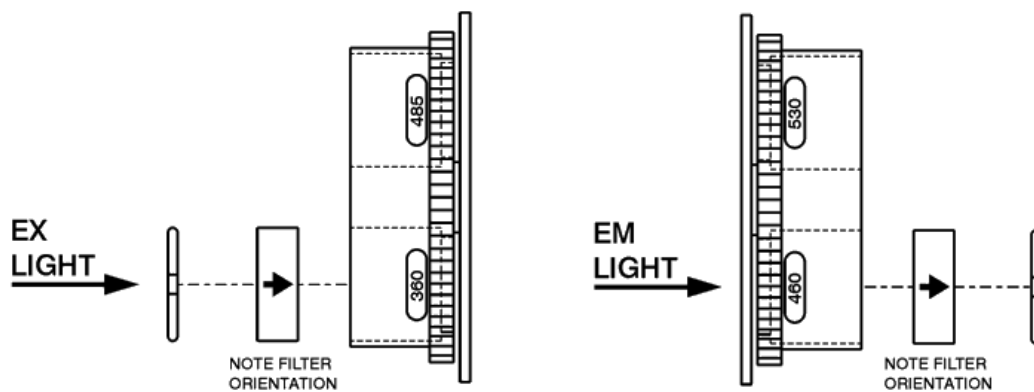

Figure 26: EX and EM filter wheels, showing correct orientation of the filters
Each filter wheel is labeled as EX or EM, and can contain up to four filters and/or black plugs (also referred to as “dummy filters”). Each filter has its central wavelength and band pass values printed on its side, with an arrow to indicate the proper direction of light through the filter (see **Figure 26**). Filters and plugs are secured with C-clip retainers.
- Filter direction within each filter wheel is important, and the direction differs depending on the filter wheel type. A diagram on the inside of the reader’s front panel door indicates orientation; see **Figure 26**.
1. Ensure that all filters and/or plugs are inserted properly (see **Figure 26**).
2. Orient the filter or plug (see **Figure 26**): Observe the arrow on the filter indicating the light direction. Align the filter’s wavelength number with the window in each filter holder, then drop it into the desired location.